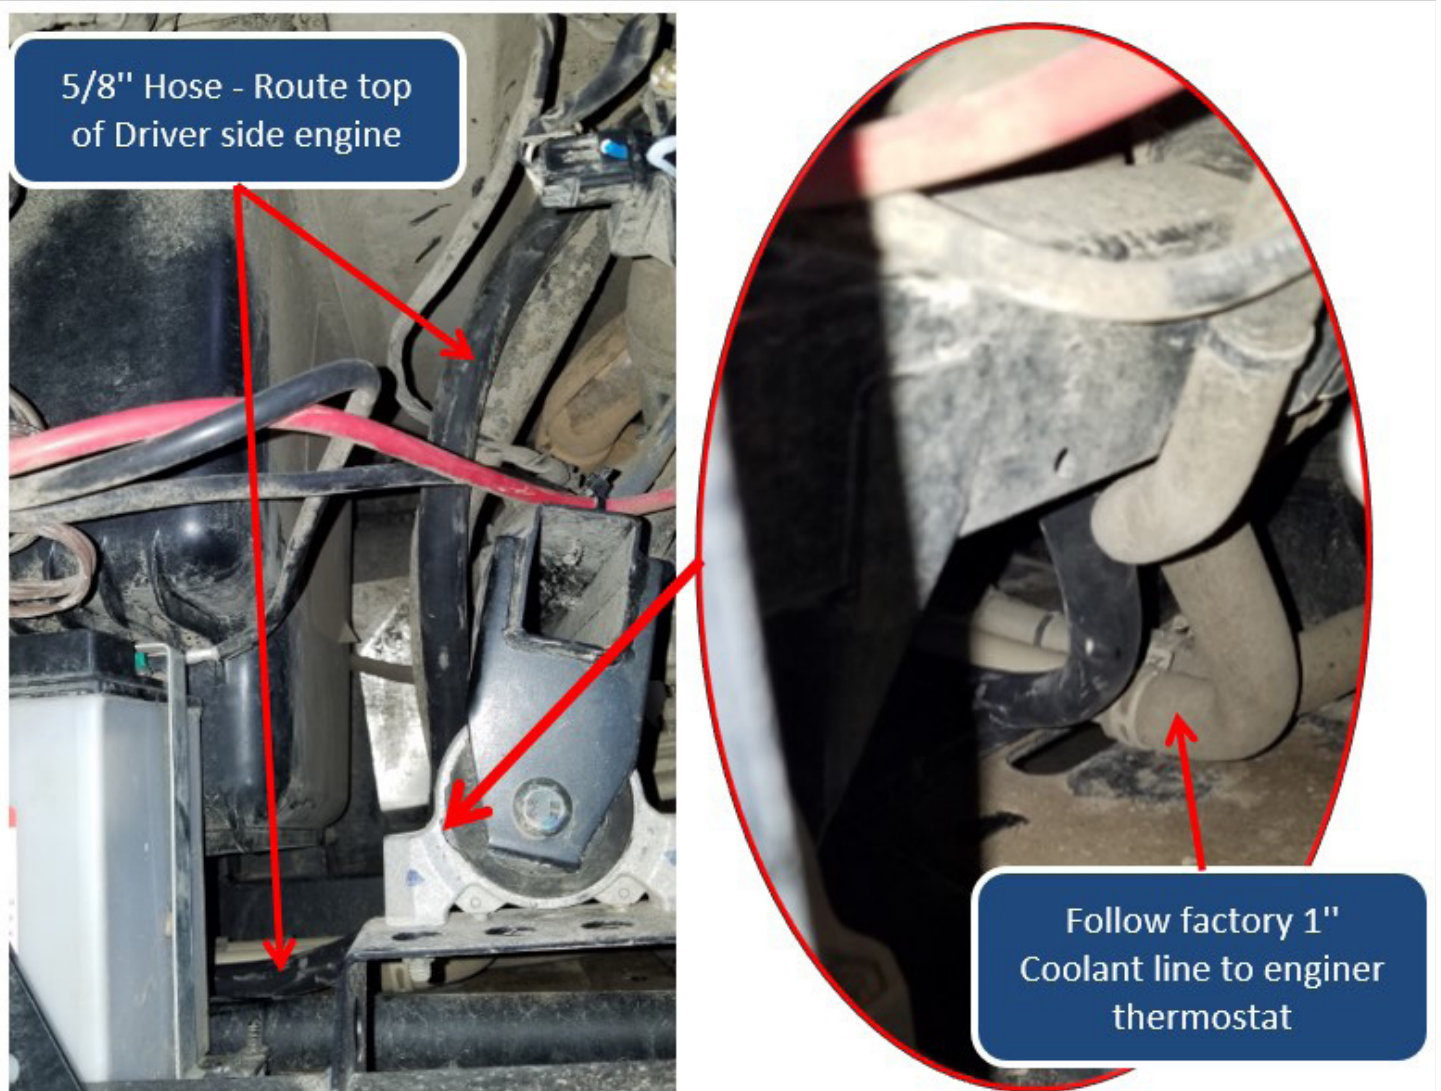

FIGURE 18
42. Route the long $\frac{5}{8}$ " radiator hose to the top driver side of the engine, continuing to follow the factory 1" radiator hose as shown in **FIGURE 18**.